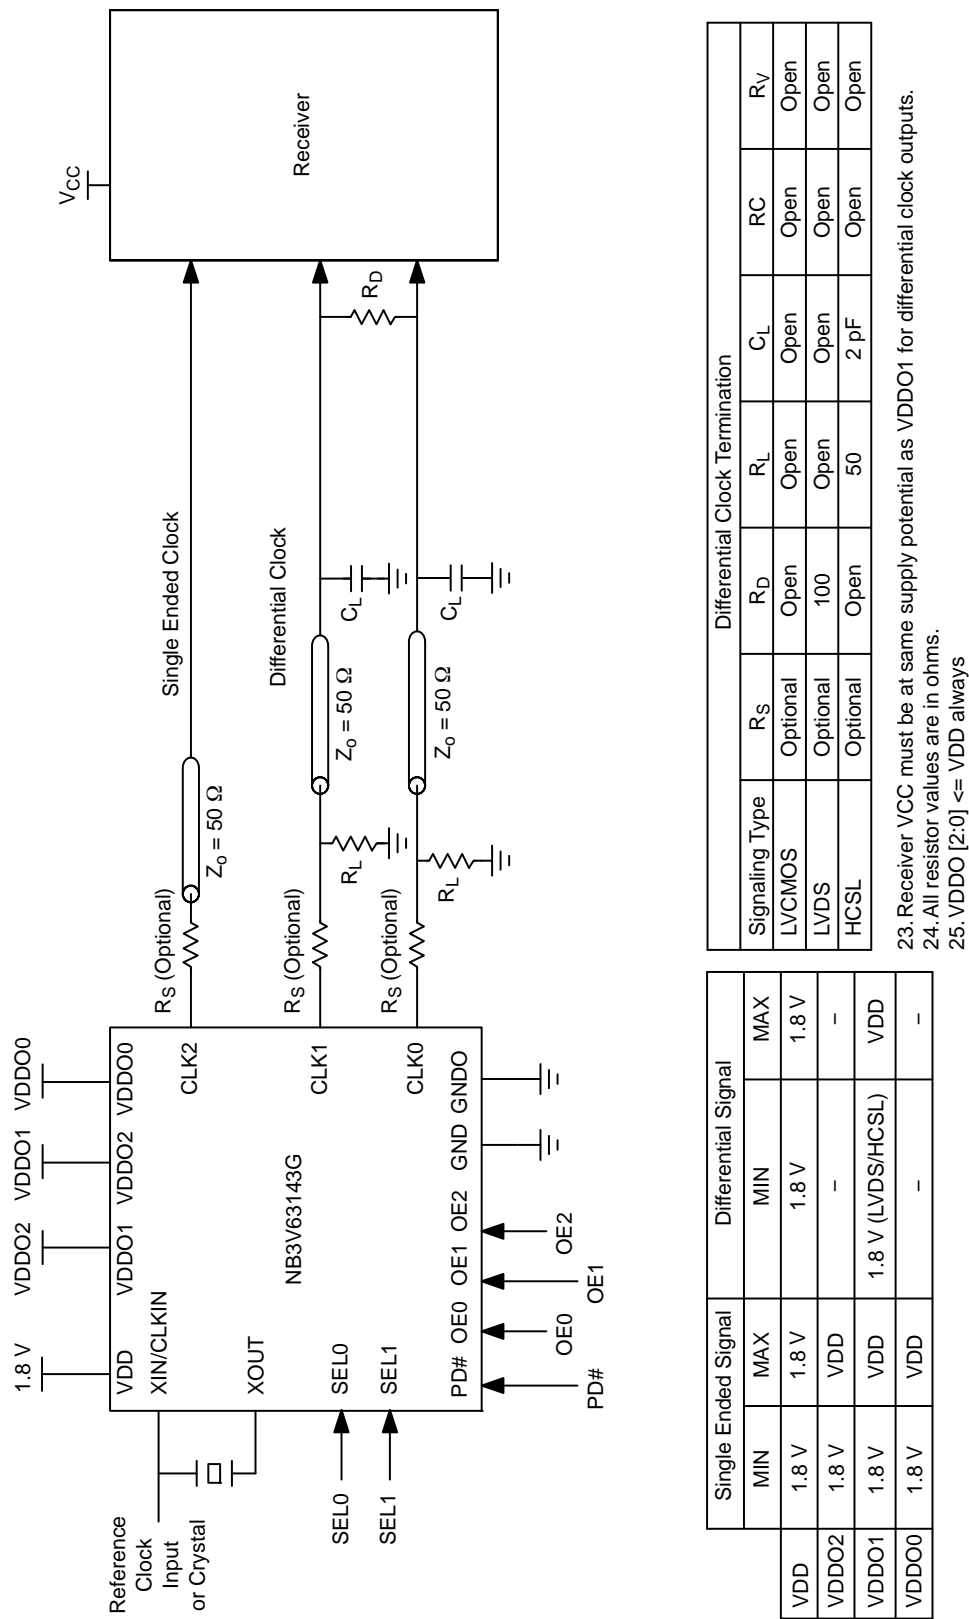

Figure 6. Typical Termination for Single Ended and Differential Signaling Device Load
- Measurement taken with single ended clock outputs terminated with test load capacitance of 5 pF and 15 pF and differential clock terminated with test load of 2 pF. See Figures 6, 7 and 10.
17. Measurement taken from single ended clock terminated with test load capacitance of 5 pF and 15 pF and differential clock terminated with test load of 2 pF. See Figures 6, 7 and 10.